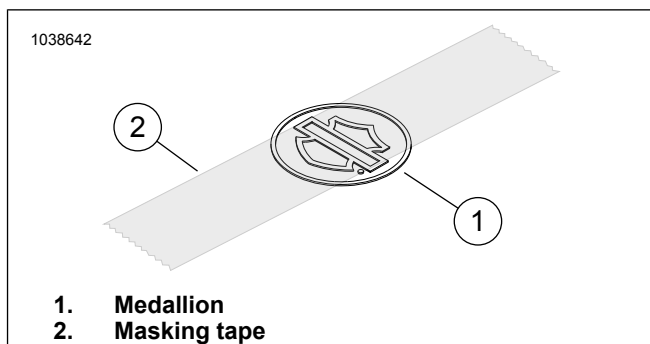

Figure 2. Apply Tape to Medallion
2. Figure 2 Place a three inch piece of masking tape (2) centered over bar and shield of medallion (1).
4. Figure 2 Install medallion to bracket.